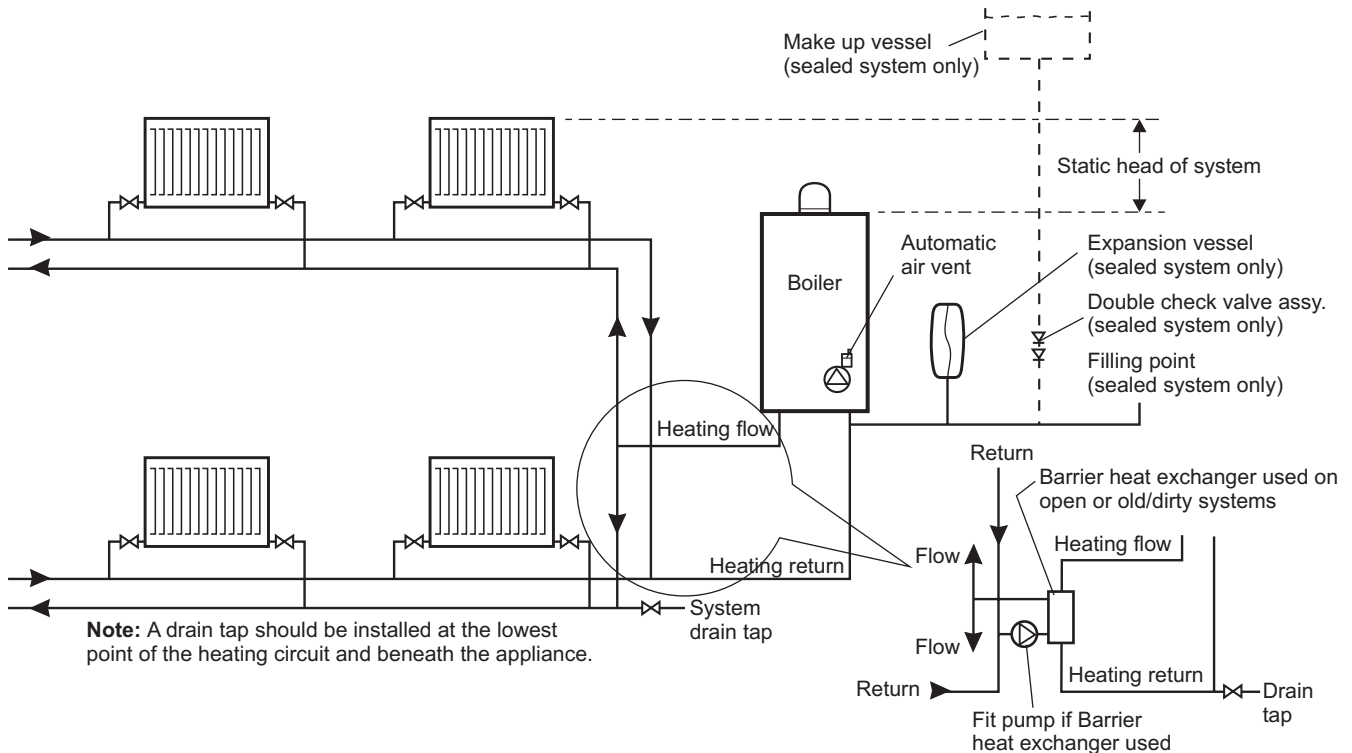
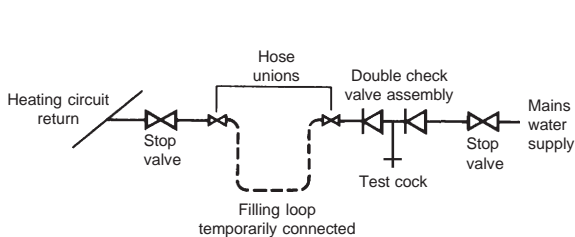
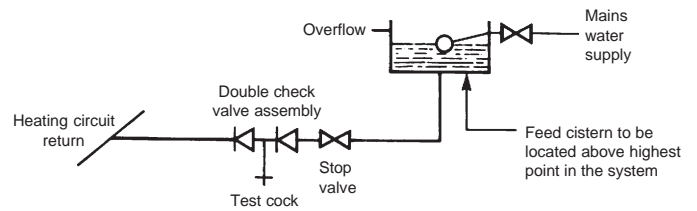

Fig. 9
Fig. 10
Fig. 11
3.8 CENTRAL HEATING SYSTEM - Fig. 9
However, if the boiler is to be used with an open central heating system refer to Fig. 9 and use a barrier heat exchanger (i.e. separates the boiler primary circuit from the open heating circuit). This will also ensure the boiler heat exchanger is protected from an old/dirty system.
Sealed system volume - An expansion vessel **is not** incorporated into the boiler. An expansion vessel **must be** fitted in the position shown in Fig. 9. To check correct operation of the expansion vessel the system pressure should not be more than 3.5 bar when the system is at maximum operating temperature (for further guidance refer to BS 7074:1), For example an 8 litre expansion vessel is suitable for a sealed system of 80 litres.
3.9 FILLING THE SEALED CENTRAL HEATING SYSTEM - Figs. 10, 11
The system design pressure (cold) should be set to 1.0 bar. This pressure is equivalent to a static head (see Fig. 9) of 10.2 metres of water.
Provision should be made to replace water lost from the system. This can be by manual or automatic means, as shown in Figs. 10 and 11. The position for connecting an automatic make-up vessel is indicated in Fig. 9. A double check valve assembly must be used, as shown in Fig. 11.
Filling of the system must be carried out in a manner approved by the local Water Undertaking. Where allowed, the system may be filled via a temporary connection as shown in Fig. 10. After filling, always disconnect the flexible hose of the filling loop.
It is essential that the central heating system is thoroughly cleaned and flushed when fitting an Alpha CD50S or CD70S boiler. Failure to do so will invalidate the warranty. If this is difficult because the system is old/dirty refer to Section 3.8, Fig. 9 gives consideration to using a barrier heat exchanger.